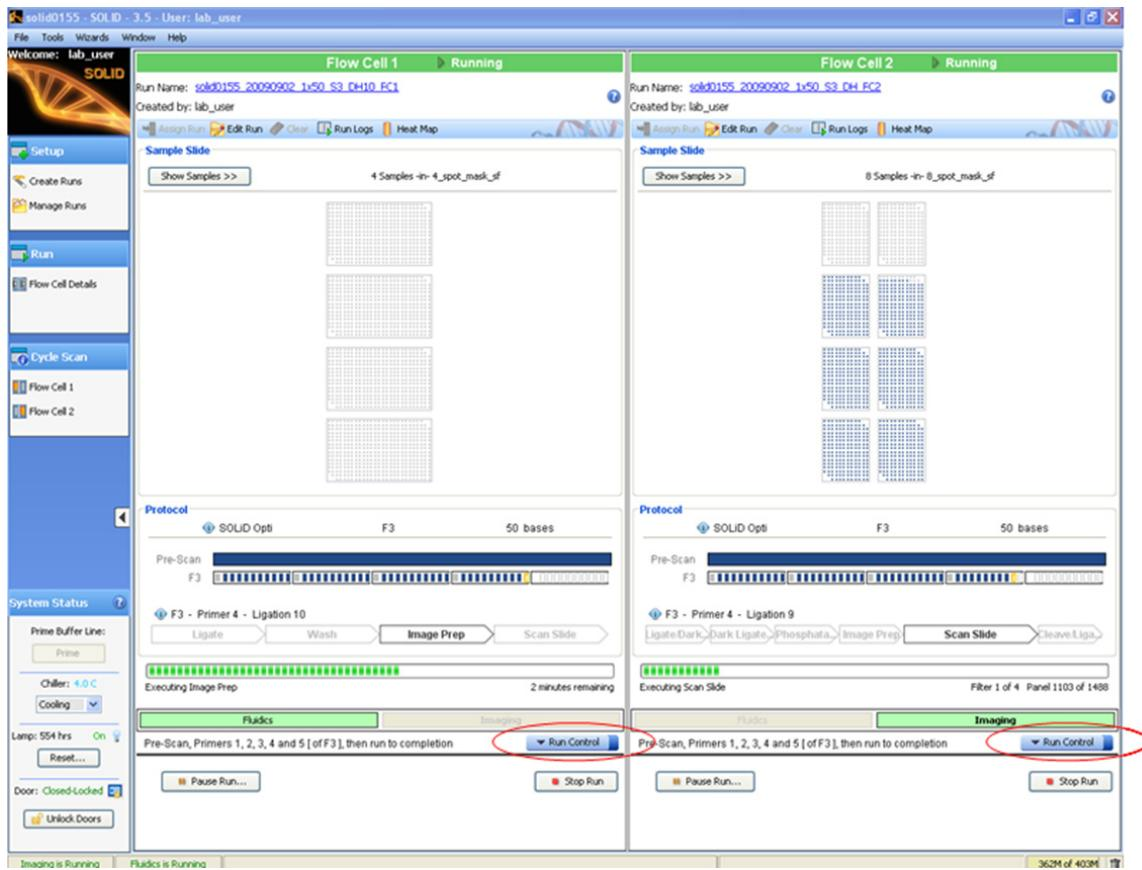

Figure 63 Click **Run Control** to display the Run Control menu for that flowcell.
- Click **Run Control** to display the Run Control menu (see Figure 63).